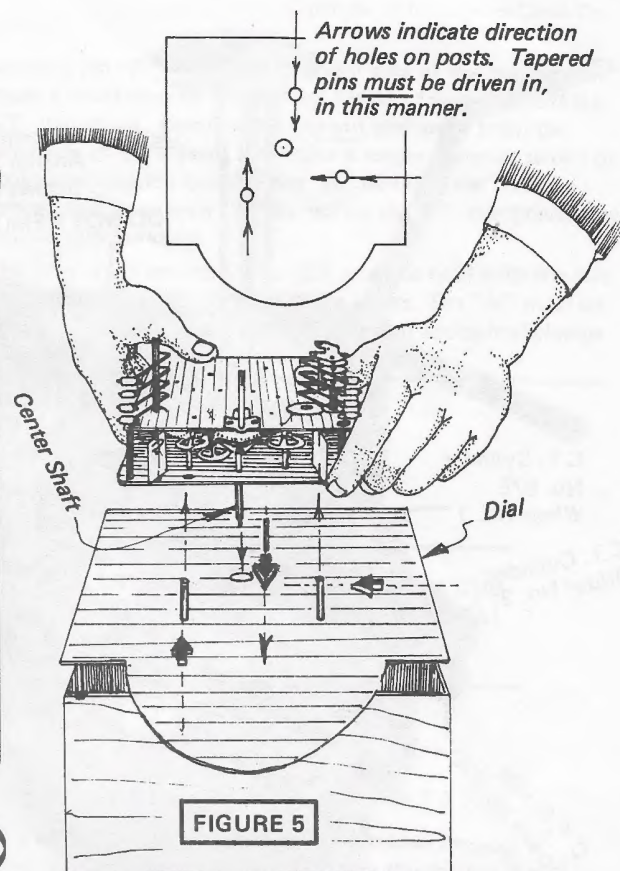

FIGURE 5
2. Remove the hands and the dial. (Figure 5 & 7).
The cam should just clear the back side of the dial. Tighten the screw on the cam and place your dial on. See Fig. 5 for placing dial on.